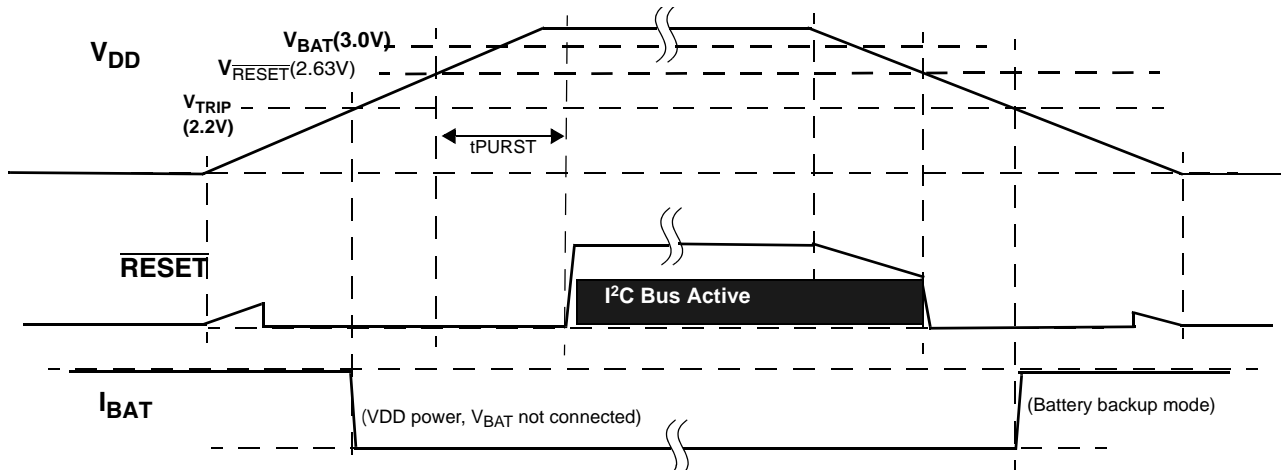

FIGURE 29. EXAMPLE RESET OPERATION IN MODE A OR C
- Mode A - In this mode selection bits indicate a low  $V_{DD}$  switchover combined with I2C operation in battery backup mode. In actuality the  $V_{DD}$  will go below  $V_{RESET}$  before switching to battery backup, which will disable I2C ANYTIME the device goes into battery backup mode. Regardless of the battery voltage, the I2C will work down to the  $V_{RESET}$  voltage (See Figure 29).
- Mode C - In this mode the selection bits indicate a low  $V_{DD}$  switchover combined with no communications in battery backup. Operation is actually identical to Mode A with I2C communications down to  $V_{DD} = V_{RESET}$ , then no communications (see Figure 29).